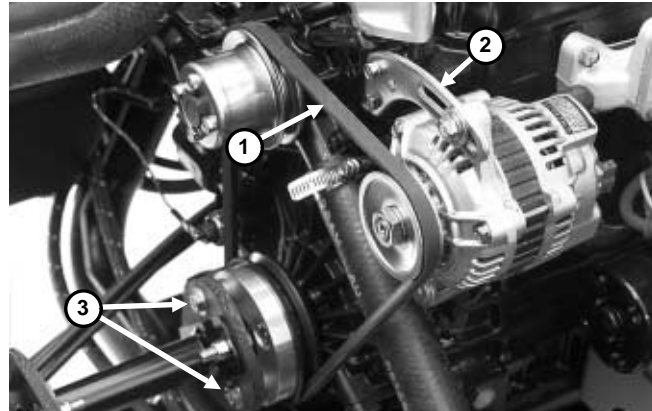

Figure 36
1. Loosen bolt securing alternator brace to engine and bolt securing alternator to brace (Fig. 36).